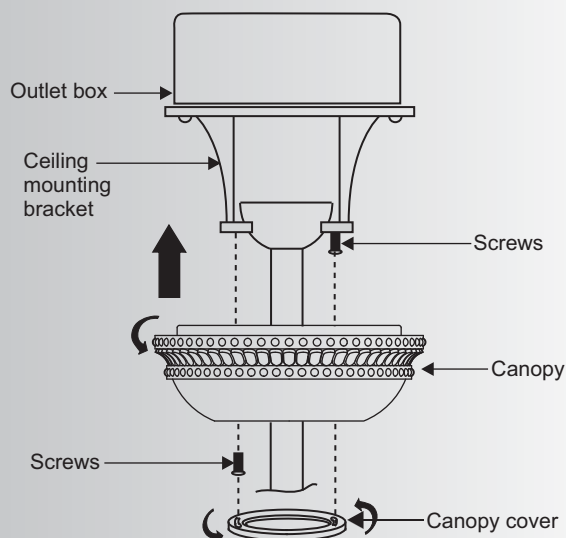

Fig. 15
**Step 2.** Slide the canopy up to the mounting bracket and place one of the key hole slots over the mounting screw on the mounting bracket. Rotate the canopy until the screw head locks in place at the narrow section of the key hole. See figure 15.
**NOTE:** Adjust the canopy screws as necessary until the canopy and canopy cover are snug. (Fig. 15)